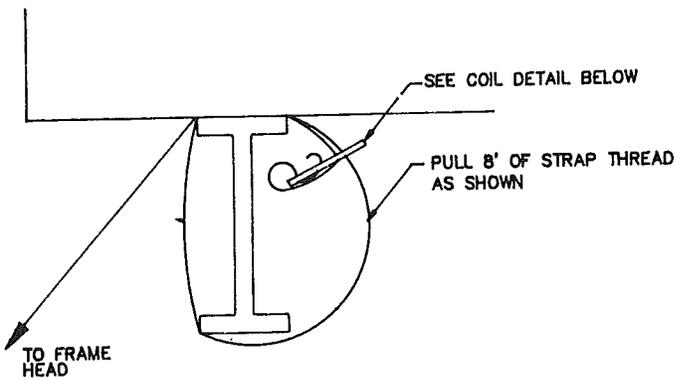

FIGURE 30
4. Use a strap buckle around the main frame of the chassis for the connection of the diagonal ties. See figure 30.